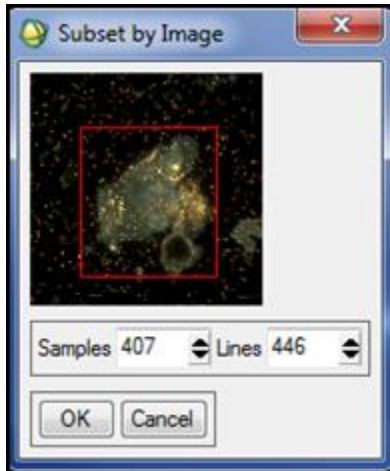

Figure 5.12c. Subset by Image Window
- A Subset by Image window appears. The whole scan is shown in this window. There is also a red box that appears (Figure 5.12c).